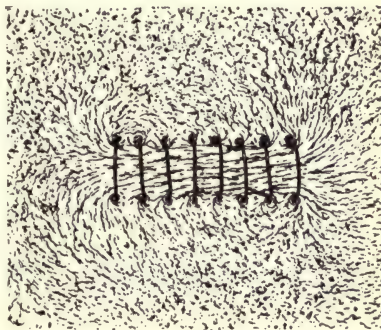

FIG. 234. — Magnetic flux around a coil.
(1) We may thread a loose coil of copper wire through a board or sheet of celluloid in such a way that when iron filings are evenly scattered over the smooth surface of the board, while a strong current is sent through the wire, they will indicate the lines of magnetic force (Fig. 234). By tapping the board gently and using a small compass, we can see the general direction of the lines of magnetic flux. It will be noticed that there are a few circular lines around each wire, and that these lines go out between the loops. They are called the “leakage flux” of the coil.